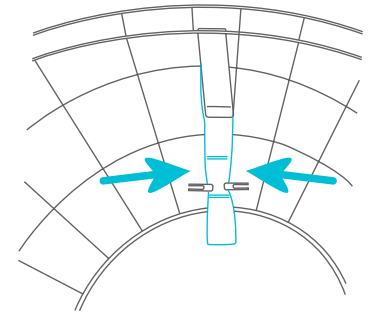
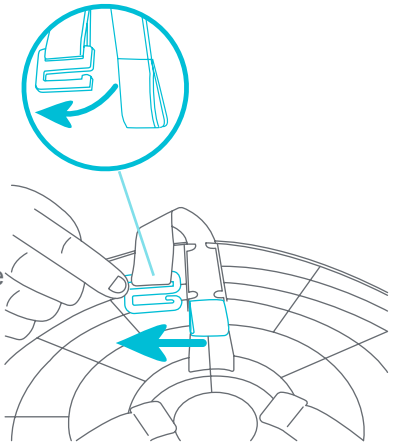

Fig. 3a
Fig. 3b
- Underneath the tabletop pinch and pull out the 3 small straps (Fig. 3a). Underneath the platform unhook the 3 adjustment plates, pinch and pull out the 3 large straps (Fig. 3b).